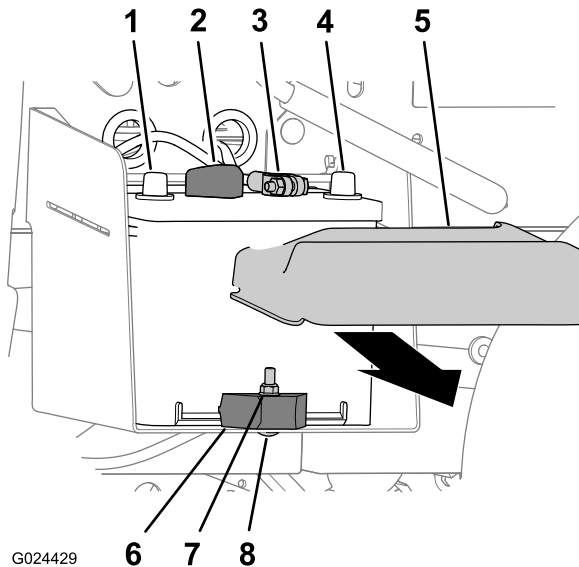

Figure 36
1. Squeeze the sides of the battery cover and remove the cover from the top of the battery (Figure 36).
2. Disconnect the negative battery cable from the terminal of the battery (Figure 36).
3. Disconnect the positive battery cable from the terminal of the battery (Figure 36).
2. Remove the locknut, carriage bolt, and battery clamp that secures the battery to the battery tray (Figure 36).
3. Remove the battery from the battery tray (Figure 36).
1. Align the battery to the battery tray of the machine (Figure 36).
Note: Ensure that the positive and negative posts of the battery are aligned as shown in Figure 36.
2. Secure the battery to the battery tray with the battery clamp, carriage bolt, and locknut (Figure 36).
1. Connect the positive battery cable to the terminal of the battery (Figure 36).
2. Connect the negative battery cable to the terminal of the battery (Figure 36).
3. Install the battery cover onto the top of the battery (Figure 36).